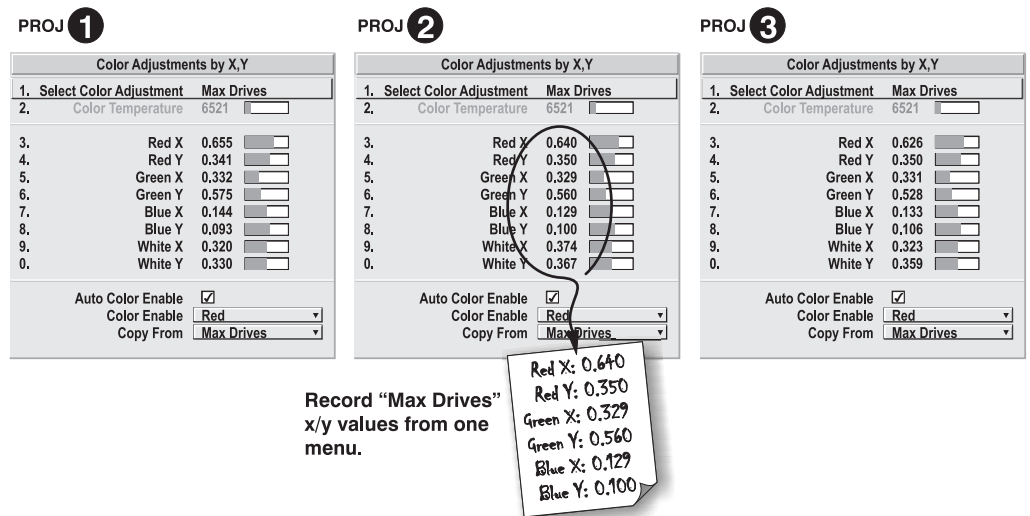

Figure 3.25. Jot Down a Set of “Max Drives” X/Y Values
4. Display the *Color Adjustments by X,Y* menus for all projectors. Each menu shows the x/y coordinates defining the “Max Drives” color gamut for this projector. Jot down the values shown in one (any) of the displays. See Figure 3.25. Or use the “Copy From” function to copy them into a “User” gamut in one projector.